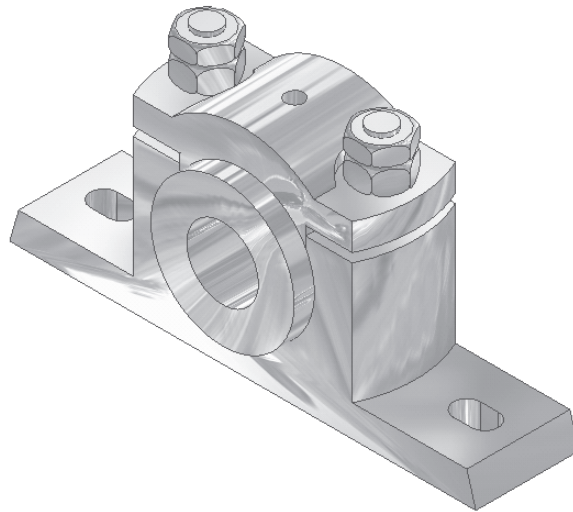

Figure 8-57 Final Plummer Block assembly
6. Similarly, assemble the other Nut and the Lock Nut. Turn on the display of all the invisible components using the browser. The final Plummer Block assembly is shown in Figure 8-57.